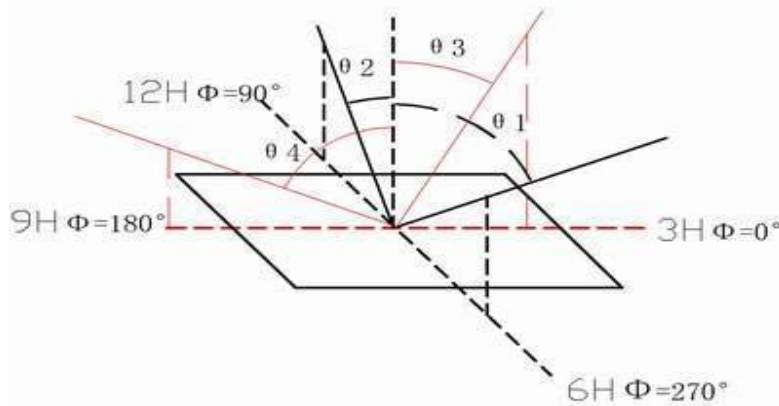

Fig.3
A. The viewing angle is defined as shown below. (See Fig.3 )